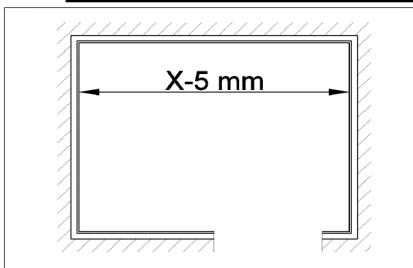

Figure 1
- Measure the exact length of the sauna bench. Leave 4–5 mm of empty space between the walls and sauna bench module. (Figure 1)